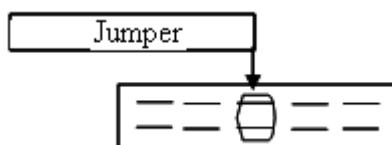

Fig. 6.4. Test mode activation
For activation of Verification (Test) mode you must opening device and set up jumper on the connector (J) contacts as shown in Figure 6.4.